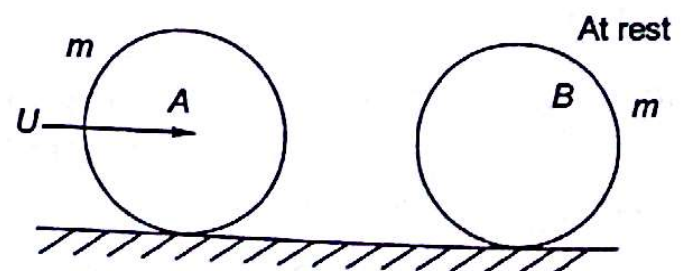

Fig. 21.14
- 21.5 A ball impinges directly on a similar ball at rest. The first ball is reduced to rest by the impact. Find the coefficient of restitution, if half of the initial kinetic energy is lost by impact (Fig. 21.14).